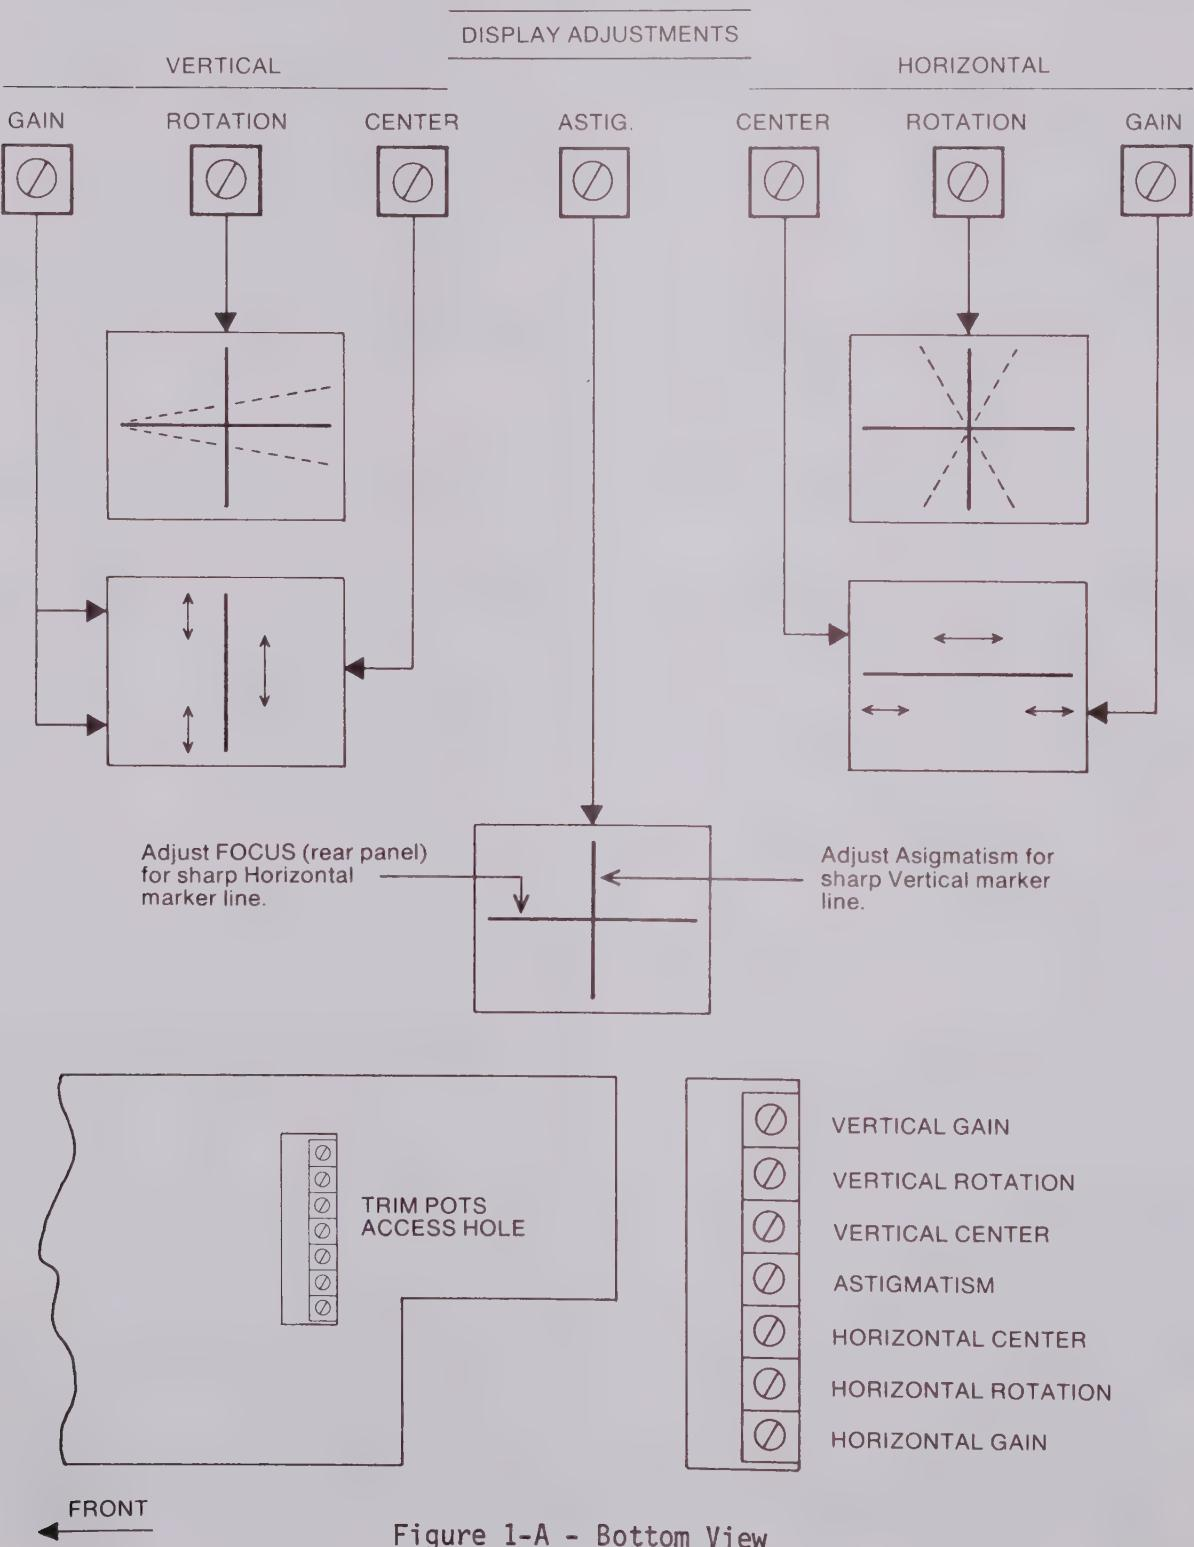

Figure 1-A - Bottom View
6. Apply square wave signal to the (+) input BNC using the Frequency Compensation network illustrated in Figure 1.